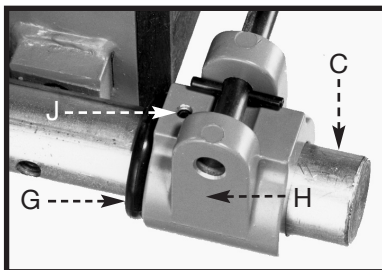

Fig. 36
11. Attach the rubber bumper stop (G) Fig. 36, and table lock/stop bracket (H) to the front end of the upper rail (C).
13. Push the rubber bumper stop (G) Fig. 36 and the table lock/stop bracket (H) in until they contact the upper bearing on the sliding table. Tighten the set screw (J) Fig. 36 to hold the stop (H) in place.